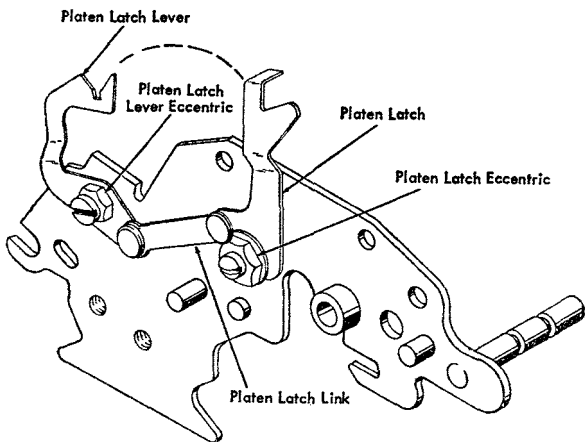

Figure 15. Platen Latches
Platen latches have been altered to make them self-locking. The new latch consists of two levers, pivoting on eccentrics, connected by a flat platen-latch link. Pulling the latch toward the front pivots the latch lever over the platen shaft. The latch engages a notch in the latch lever, locking the two together (Figure 15).
2. **PLATEN LATCH LEVER ECCENTRIC.** Adjust so that the platen is held firm with the high point of the eccentric in the forward half of its orbit. (Figure 15).